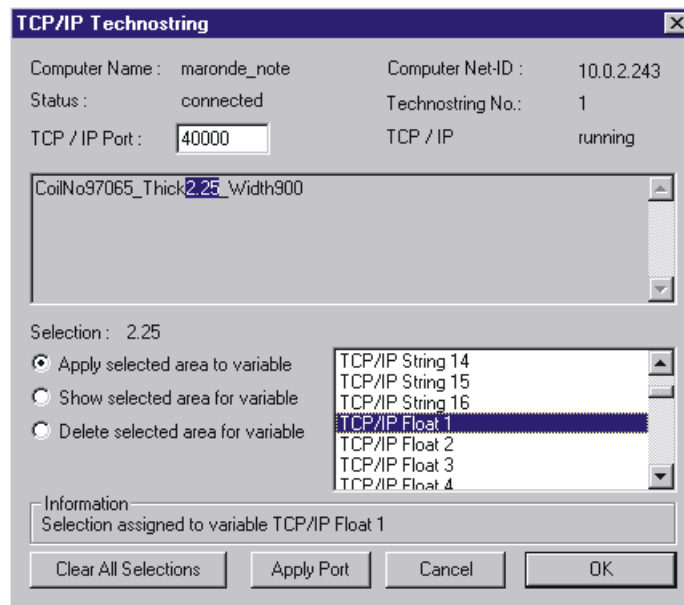

Fig. 18 TCP/IP Technostring, dialog window
- 3 Using another (remote) system send a technostring to the ibaLogic computer by means of the test program *TCPIP Test.exe*. The technostring should appear in the dialog window above (Fig. 18).
*If a different port number has to be used for technosttring communication because this port is used for other kinds of data exchange, then enter a new port number in the dialog window above (Fig. 18) and click OK in order to create the file *iba_tcp.cfg*.*